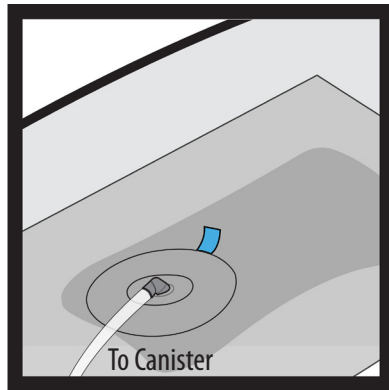

Figure 20
6. Select desired location for Irrigation SpeedConnect™. Cut a 1cm diameter hole in the top of the drape where the Irrigation SpeedConnect™ is to be placed (**Figures 20 and 21**).